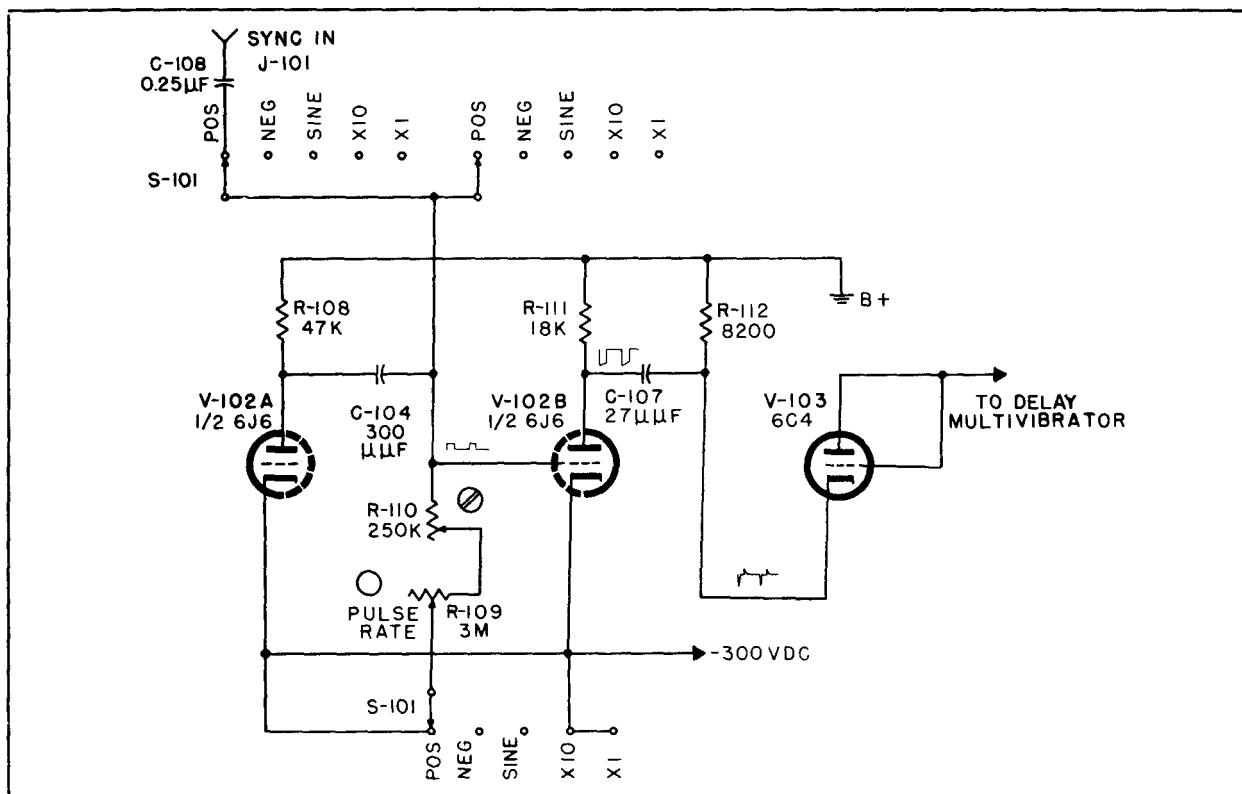

Figure 3-11. External Positive Pulse Sync. Circuit
(4) EXTERNAL POSITIVE PULSES.-When the external synchronizing voltage is a positive pulse (figure 3-11), the pulse is applied to the grid of V-102B through S-101. The grid of V-102B is returned to the cathode, although grid current flowing through the large grid resist-